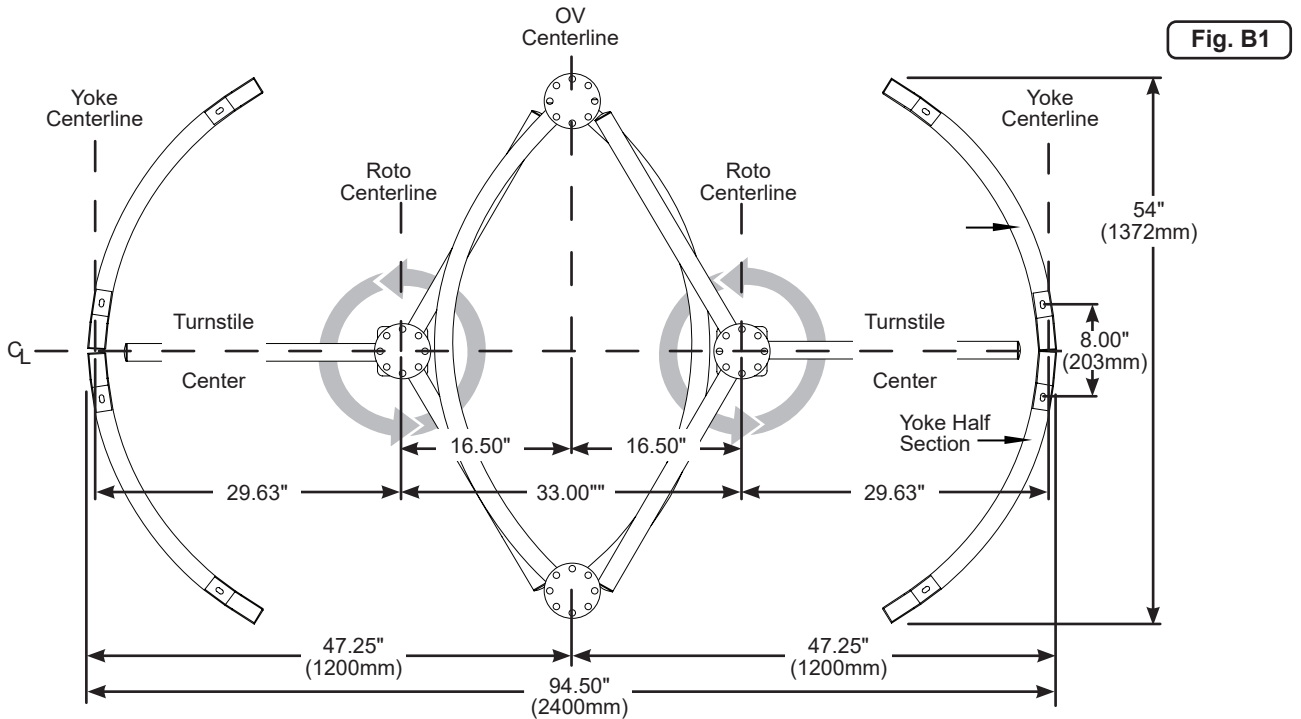

Fig. B1
- Determine where the turnstile will be installed. Consider the overall footprint size of the unit when determining the installation location (Figure B1). Once the installation location has been determined, use a chalk line to mark the centerline of the turnstile.